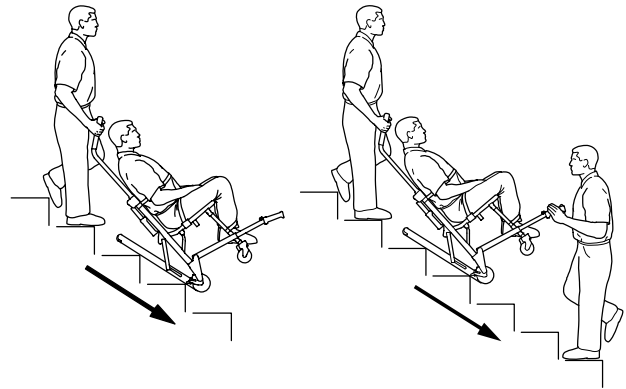

Figure 11 – Transporting down the stairs
8. Both operators: Glide down the stairs until the treads are level across the edges of two or three steps (Figure 11).